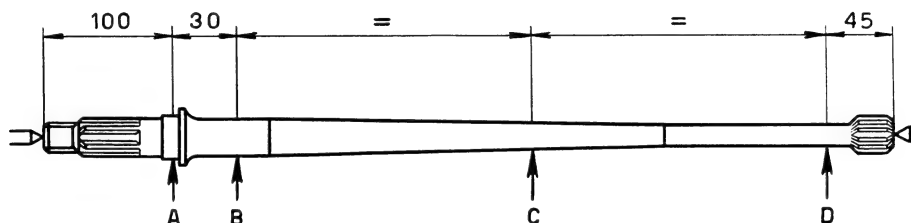

Fig. 132. - Diagram for runout inspection of axle shafts.
- at points A and B (fig. 132), machined surfaces, the out-of-true is in excess of **.0012" (0.03 mm)**;